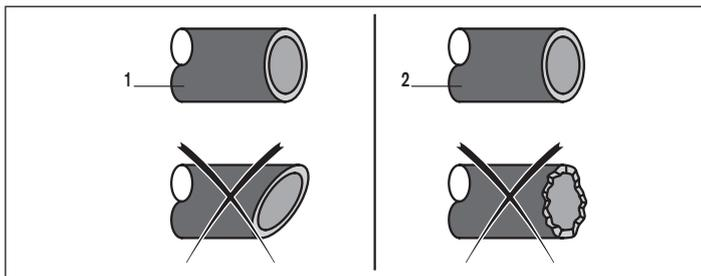

Fig. 11: Pipe cut and deburred
- Cut the pipe squarely [1] and deburr [2]. See Fig. 11.